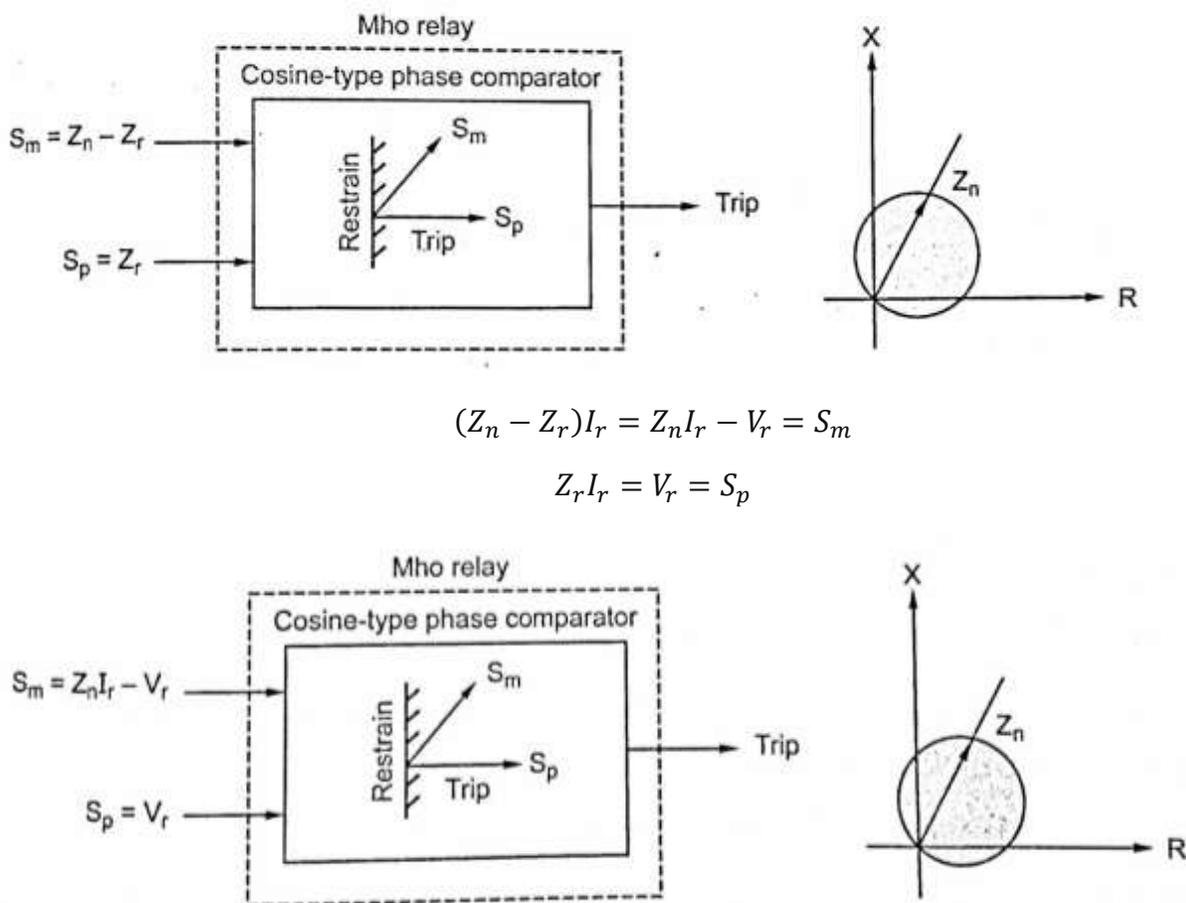

Fig. 4.22. Deriving signals for mho relay synthesis-cosine type phase comparator
- The two voltage signals $(I_r Z_n - V_r)$ and V_r , fed to a cosine-type comparator for synthesis of a mho relay with a setting of Z_n is depicted in Figure 4.22.